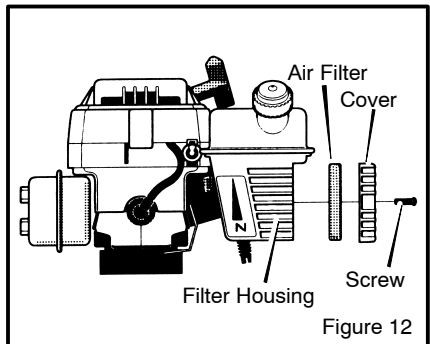

Figure 12
2. Remove the **screws** from the **air filter cover** (see Figure 12). Remove the **air filter cover** and the **air filter**.